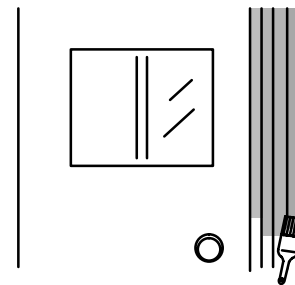

Fig. 7
1. **Woodwork & Walls:** Using a brush, paint woodwork first. Apply a starting row of paint approximately the width of the paint brush around the woodwork and where the walls meet the ceiling. (Fig. 7.)